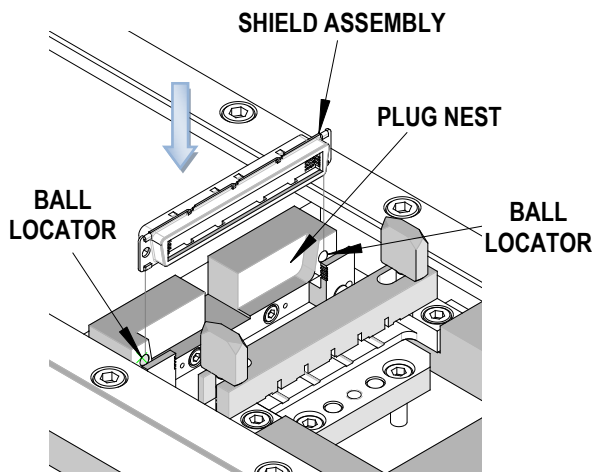

Figure 2-3
1. Load the shielded housing into the plug nest. The plug nest can be loaded only one way. See Figure 2-3. The long side of the "D" shell is towards the top of the nest.